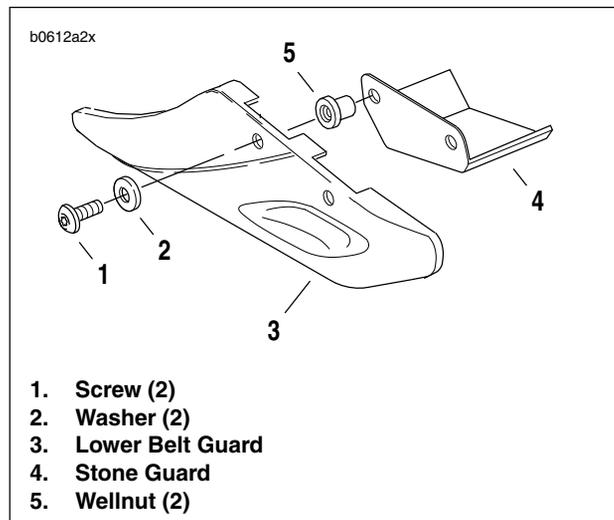

Figure 2-117. Belt Guard and Stone Guard Installation
1. See Figure 2-117. Remove two screws (1) and washers (2) securing lower belt guard (3) to swingarm.
2. Remove lower belt guard (3), stone guard (4) and well-nuts (5).